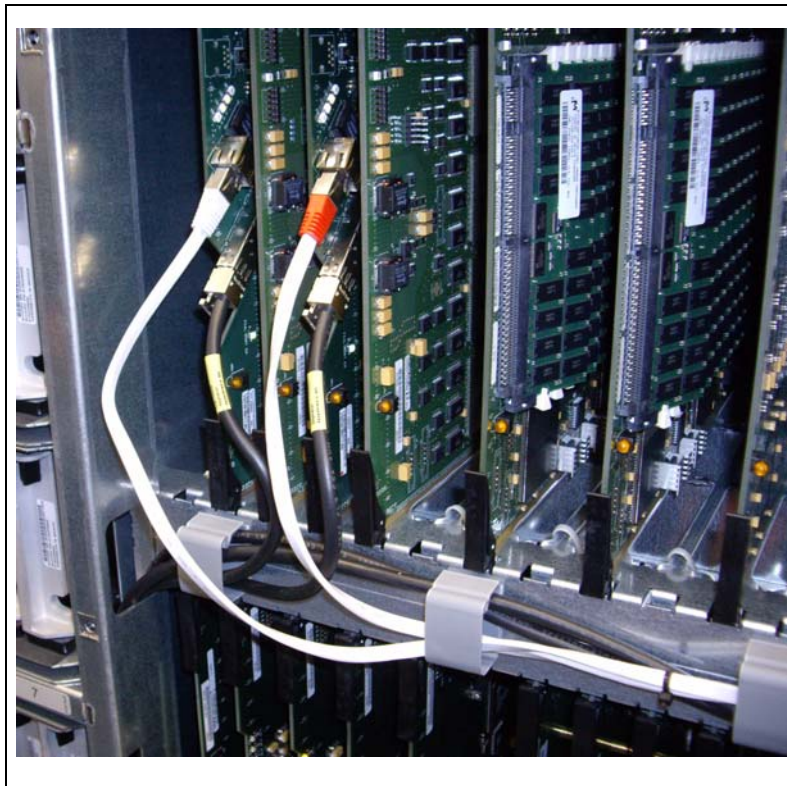

FIGURE 1-3 IFF3 Card Connections
3. Connect the Ethernet cables and Fibre Channel Cables as shown in **FIGURE 1-3**.
Note that in **FIGURE 1-3**, the **white** cables from the wiring harness connect to the Ethernet port on each card, while the black cables connect to the Fibre Channel SFP on each card.